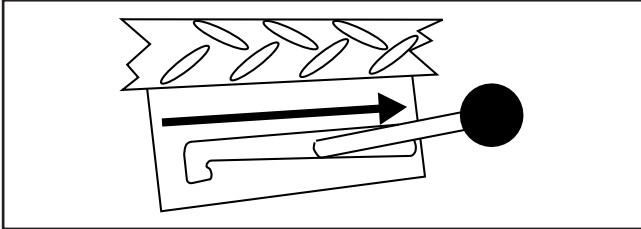

Figure 5. Safety lever to the right.
6. Move the safety lever to the right as shown in **Figure 5**. This will lower the locking plate, engaging the safety latches as the lift is raised.